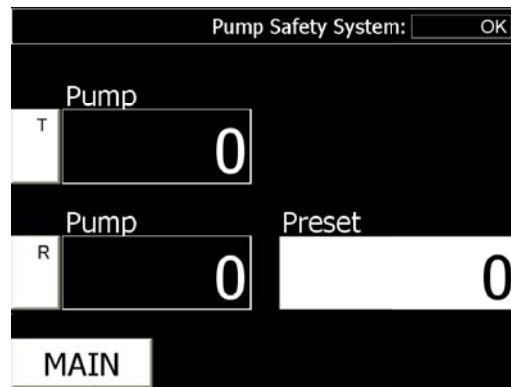

Figure 24 - Repump Truck Run Screen
The top multi-mode display in figure 24 is showing the pump job total (0), while the lower display is showing the pumping rate(0).